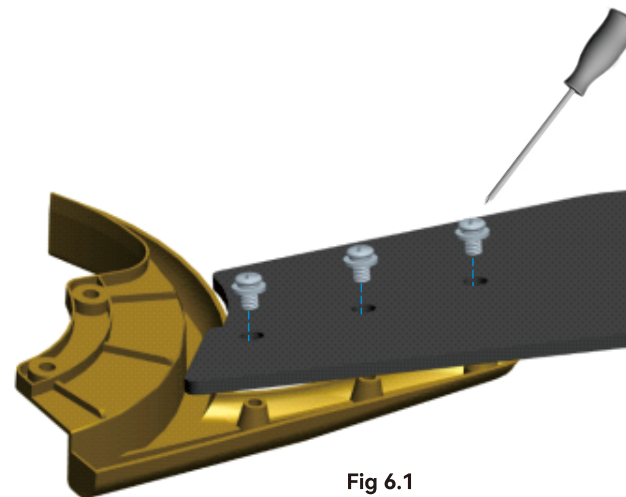

Fig 6.1
6.1 Locate 15 blade attachment screws in the hardware pack. Secure each blade to the blade bracket using the blade screws as shown in Fig 6.1.